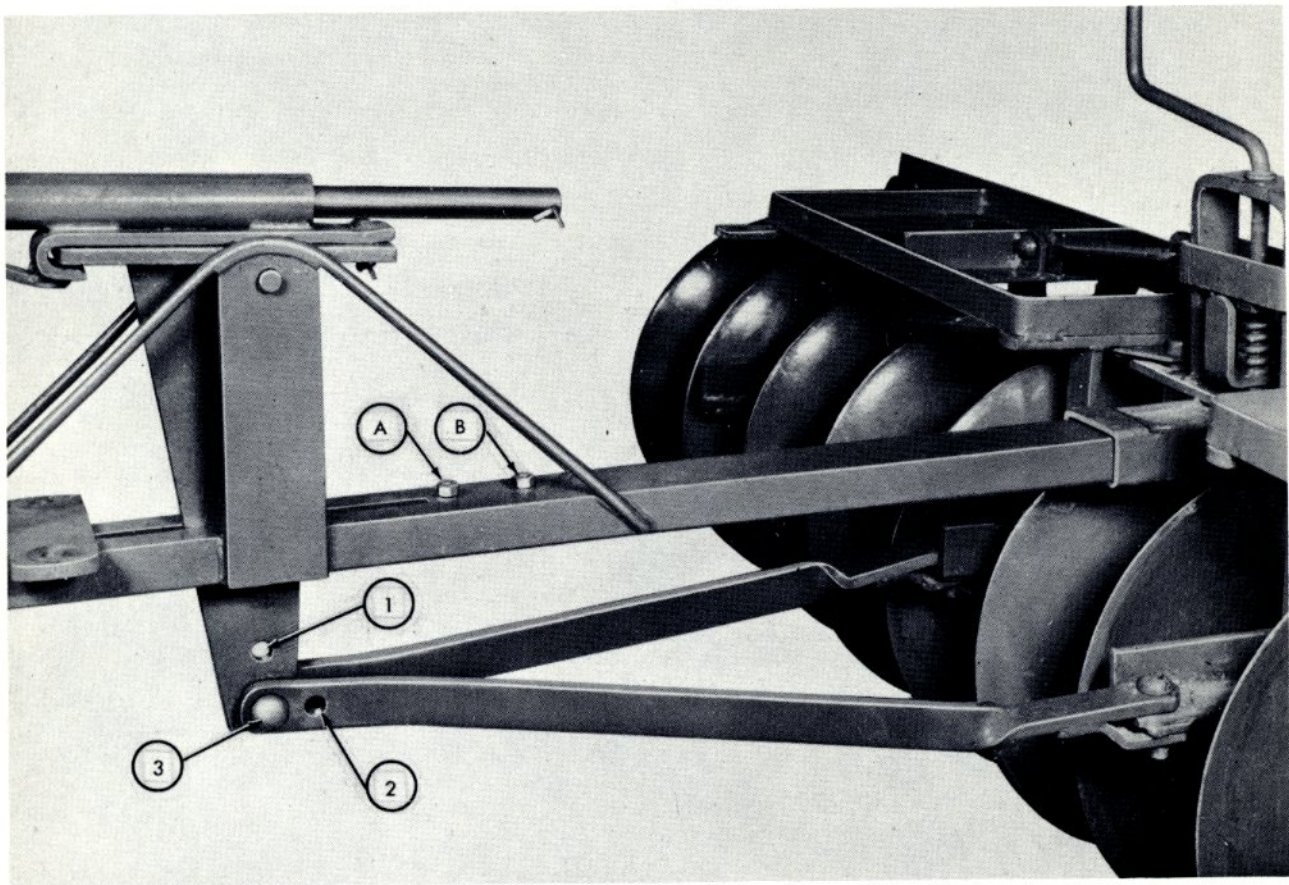

Figure 15
The maximum disc angle may be set by removing the bolts (A) and (B) shown in Figure 15 and adjusting the lever stop plate under the hitch tongue. This stop plate may be set to give maximum disc angle desired by limiting the movement of the angling lever in the tongue slot. The shorter the tongue slot is made with the lever stop plate, the less the maximum angle will be.
The two holes (1) and (2) shown in Figure 15, are for minor angle adjustments and are seldom used. The greatest possible disc gang angle of 21° is obtained by using hole (3) in the inside draft bars and the bottom hole in the angling lever, with the lever stop plate set clear of the tongue slot. Figure 15 shows this setting.